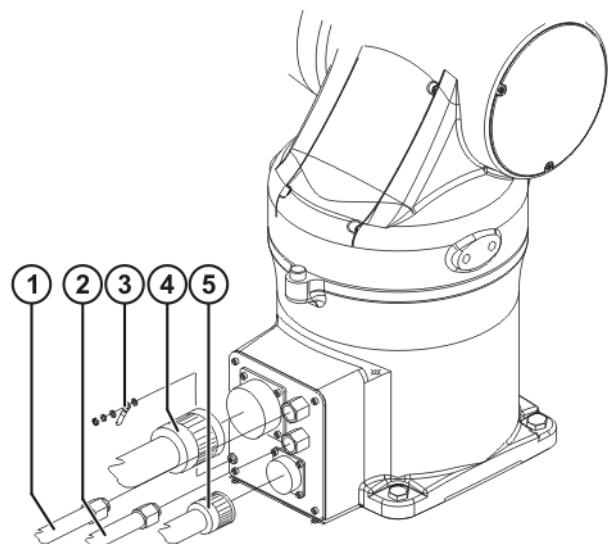

Fig. 8-3: Connecting a floor-mounted robot
11. Connect the ground conductor (>>> Fig. 8-3) using M5 hexagon nuts, washers and a lock washer.